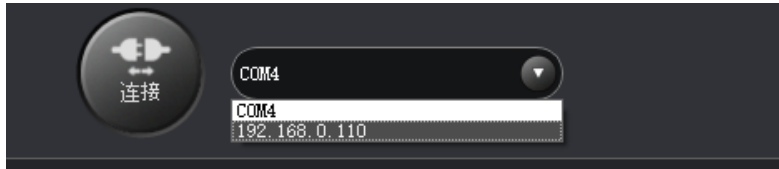

Figure 5.164 IP address of Dobot Magician
- Step 8** After 2 seconds later, select the IP address from the drop-down list on the upper left pane of the DobotStudio page and click **Connect**, as shown in Figure 5.164.